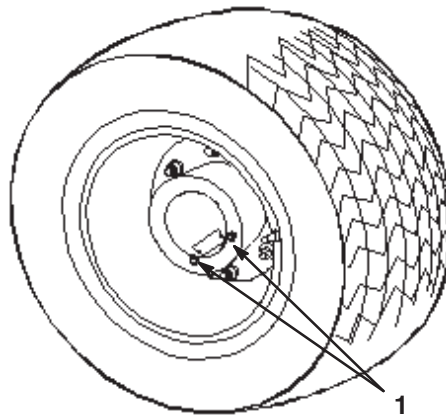

Figure 44
1. Position the sprayer on a level surface with the rear wheels positioned for draining as illustrated in Figure 44.
- Place a pan under the drain plugs and remove them from the wheel (Fig. 44).